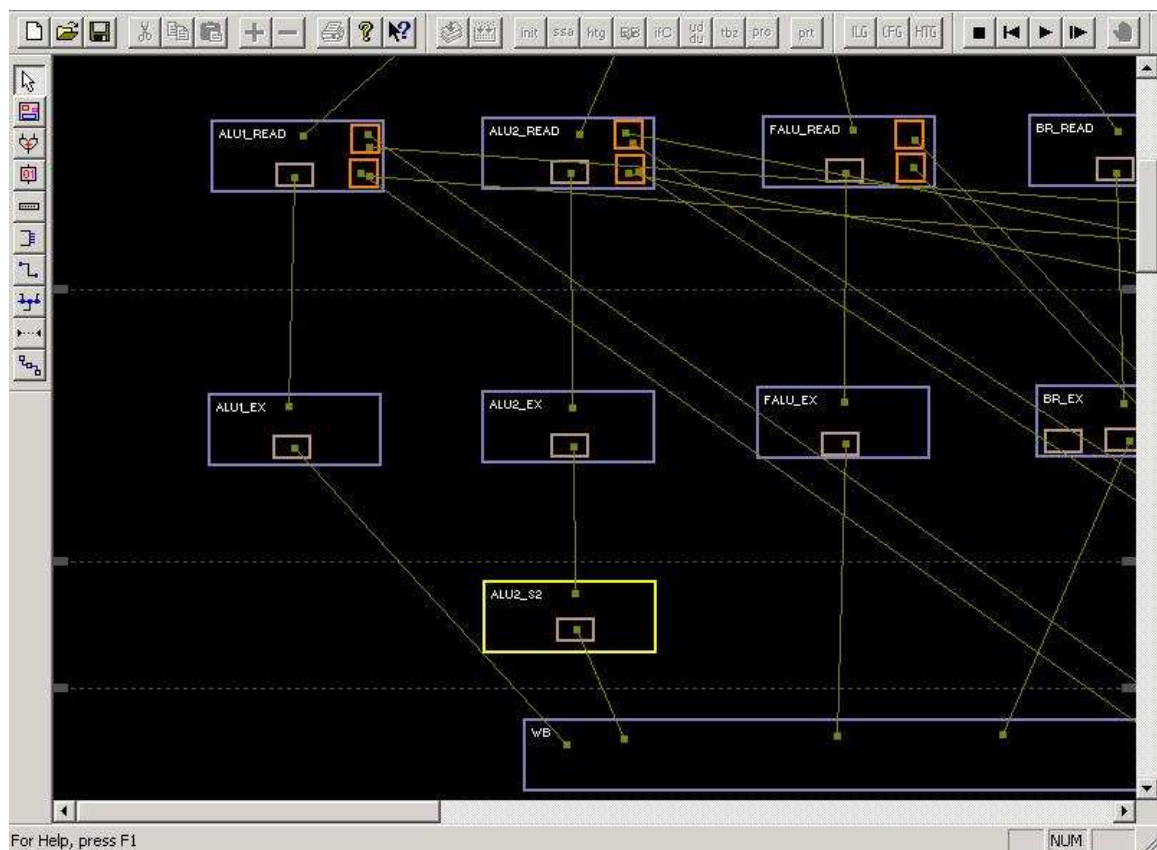
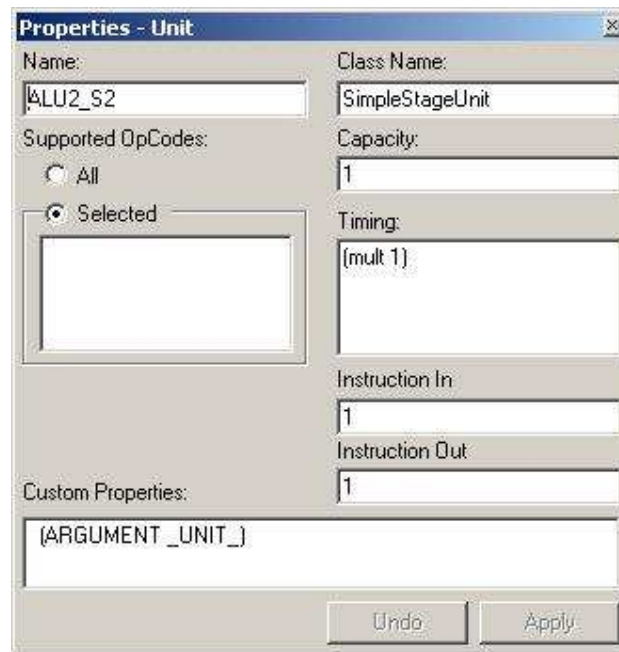

Figure 43: Modified architecture after adding a pipeline stage
Figure 44: Dummy stage
- (2) Add a new pipeline stage and add a dummy stage with the attributes shown in Fig 44. The modified architecture would resemble Fig. 43.